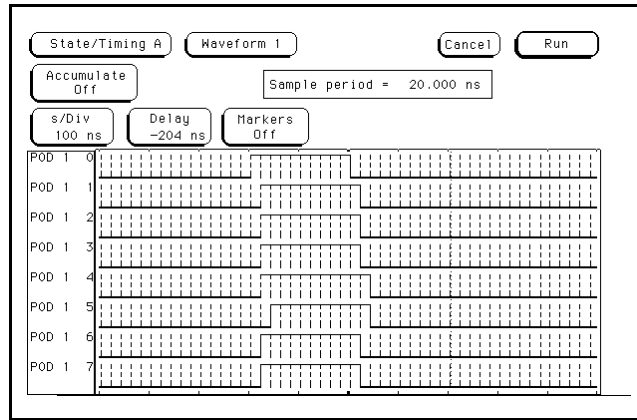

Figure 3-38. Listing Screen
6. Touch **Run**, then drag finger to **Single**. The timing analyzer will acquire data and show glitches for channels under test as shown in figure 3-38. Select the Delay field and spin knob to ensure consistent glitch detection.